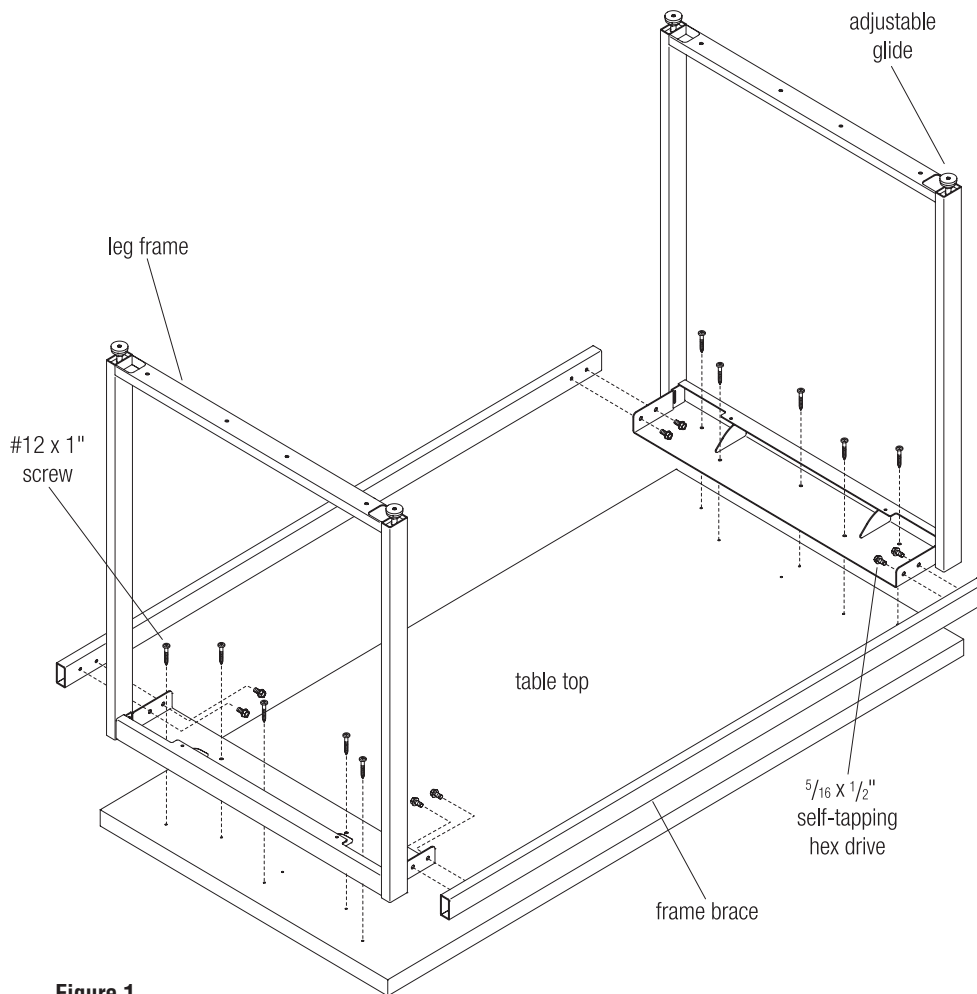

Figure 1
1. Carefully place table top upside down on a soft protective surface. Locate and identify all parts and hardware provided (Figure 1).
2. As illustrated, secure two frame braces to two leg frames using a power driver and eight  $\frac{5}{16} \times \frac{1}{2}$ " self-tapping hex drive screws making sure that screws draw braces snug to brackets (Figure 1).
3. Position the leg frame assembly over the pre-drilled holes in the worksurface, aligning all mounting holes. Insert all ten #12 x 1" Phillips screws through the mounting holes in the leg bracket, into the table top. Center the complete assembly on the table top, then tighten each screw to secure. Take care to not strip mounting holes in table top (Figure 1).
4. Carefully turn assembled table to the upright position. Twist any of four adjustable glides either in or out to accommodate varying floor surfaces, or to level table (Figure 1).